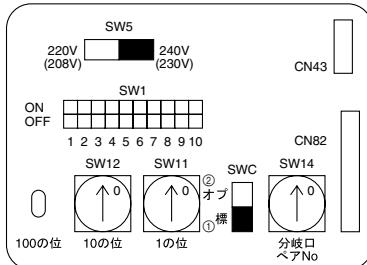

Fig. 6-7
6.4. Setting addresses (Fig. 6-7)